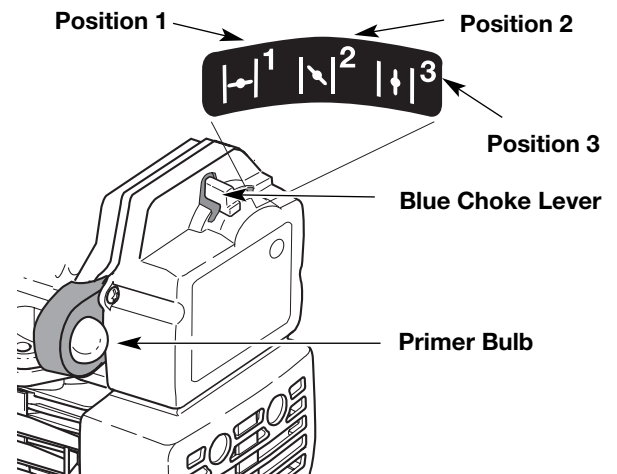

Fig. 7
3. Place the blue choke lever in **Position 1** (Fig. 7).
4. Fully press and release the primer bulb 10 times, slowly. Some amount of **fuel should be visible in the primer bulb** and fuel lines (Fig. 7). If you can't see fuel in the bulb, press and release the bulb as many times as it takes before you can see fuel in it.
10. Once the engine is warmed up, place the blue choke lever in **Position 3** (Fig. 7). Release the throttle control to the idle position and begin operation.
IF... The engine hesitates, return choke lever to Position 2 (Fig. 7) and continue warm up.